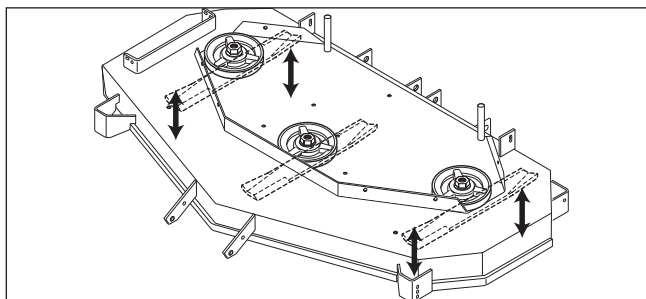

Figure 51. Checking the Blade Height Adjustment
7. See Figure 51. Position the outside mower blades so they face front-to-back.